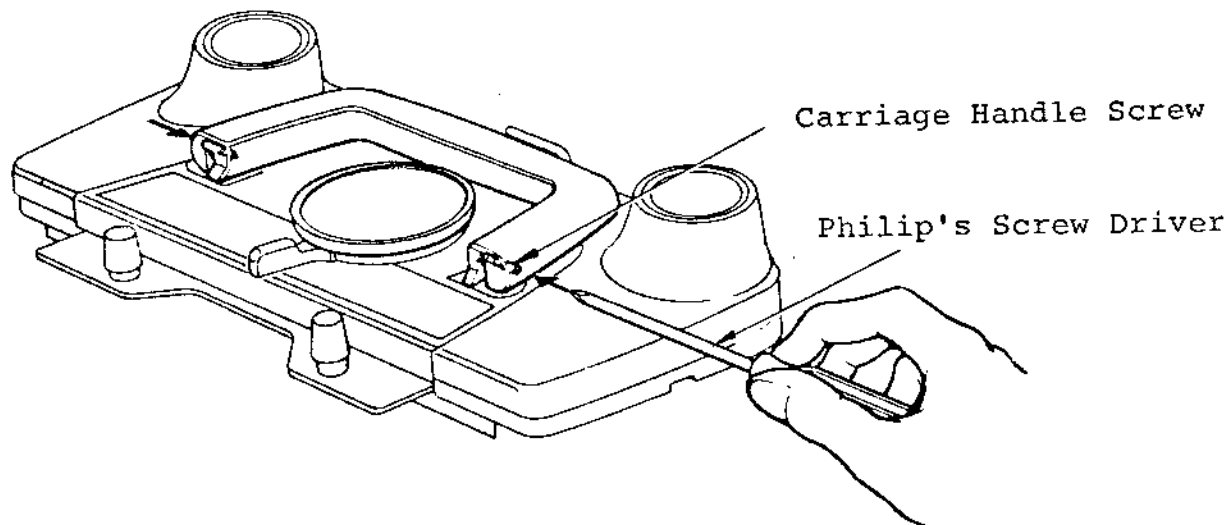

Fig. 53
6. With the Carriage Handle down, as illustrated in Fig. 53, secure it by inserting and fastening the two Carriage Handle Screws.